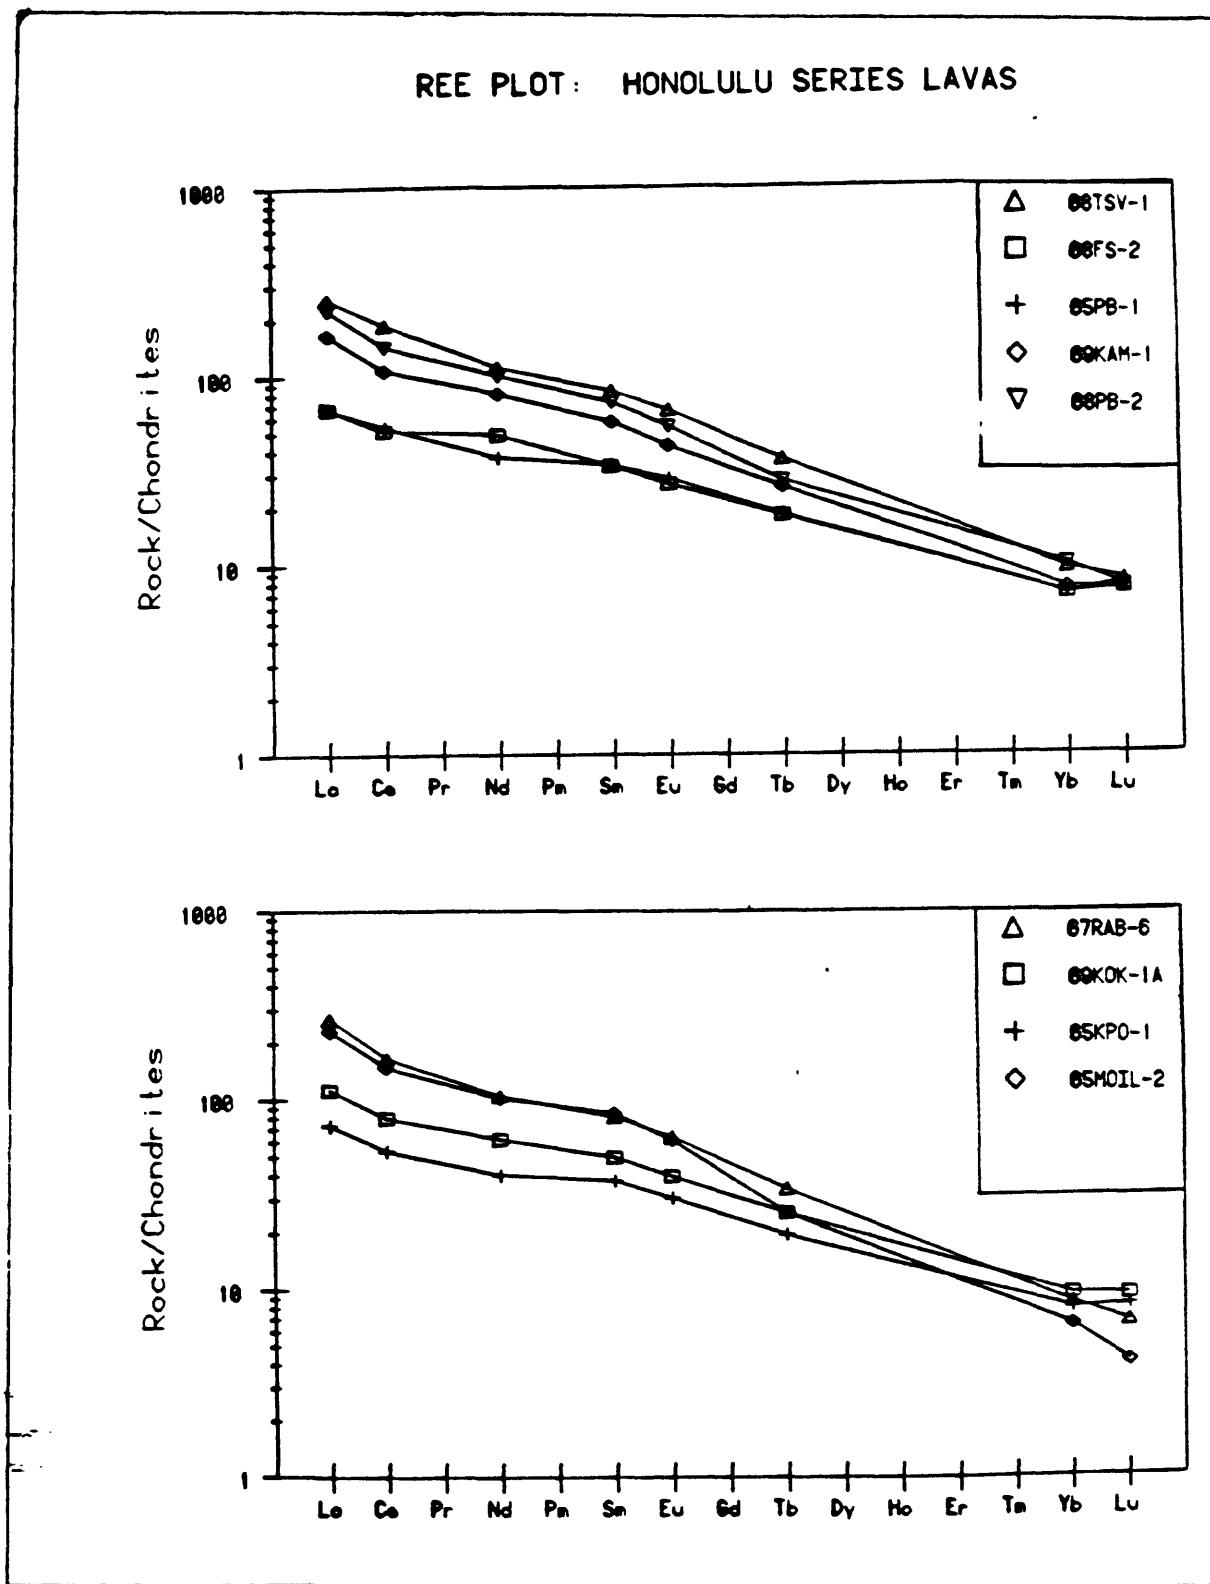

Figure 5: Chondrite-normalized Rare-Earth Element plot (using Honolulu Series data)
- Figure 5 - REE plot (semi-log)